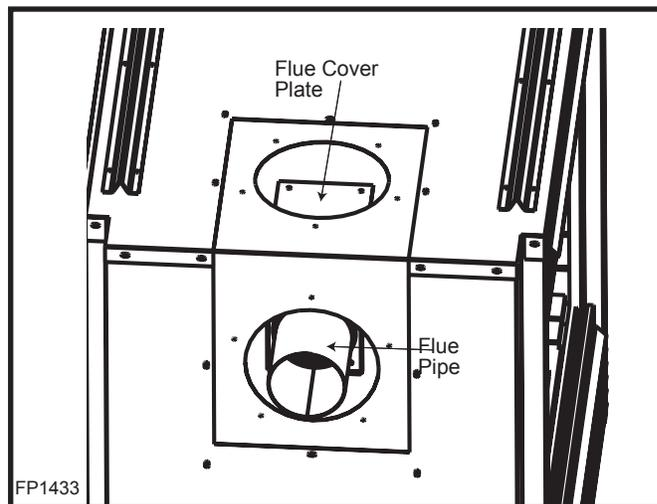

Fig. 11 Flue pipe removal.
4. Remove the 4 screws securing the flue cover plate to the top of the intake box and remove the cover and gasket. (Fig. 11)
5. Remove 4 screws securing the flue pipe to back of the intake box and remove pipe and gasket. (Fig. 11)